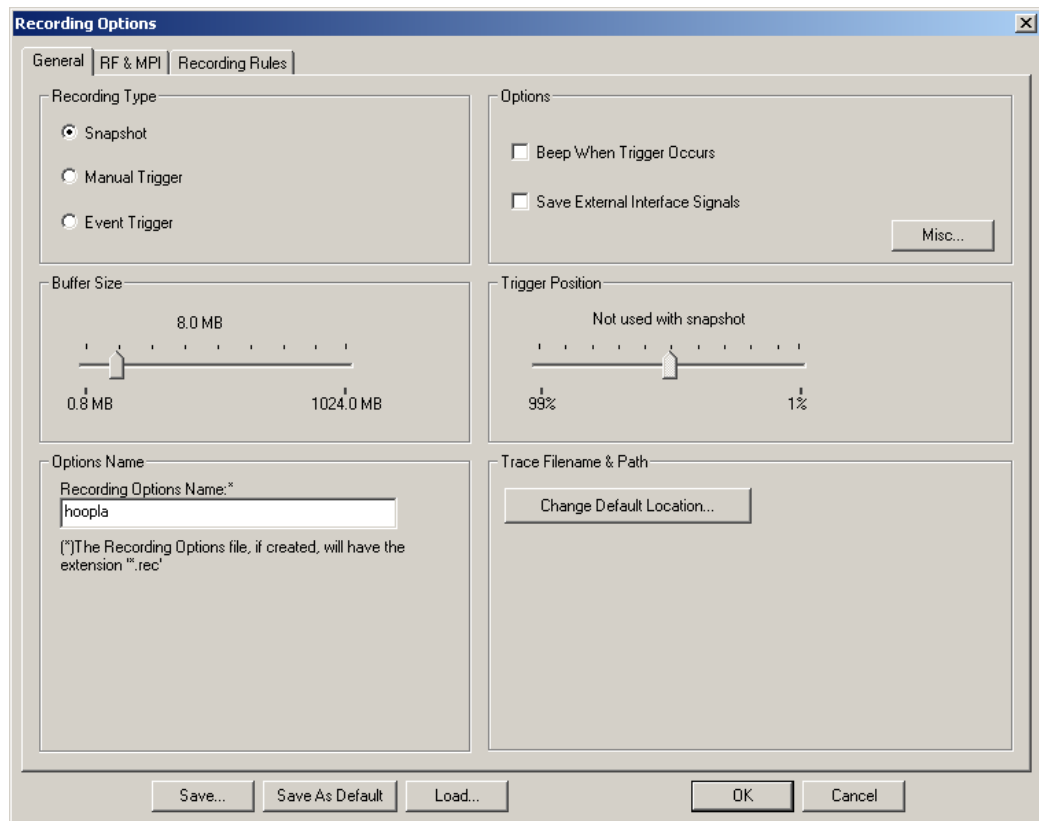

Figure 7.1 Recording Options Window: General Page
- From the Tool bar, select the **Recording Options**  button to display the Recording Options window (Figure 7.1).